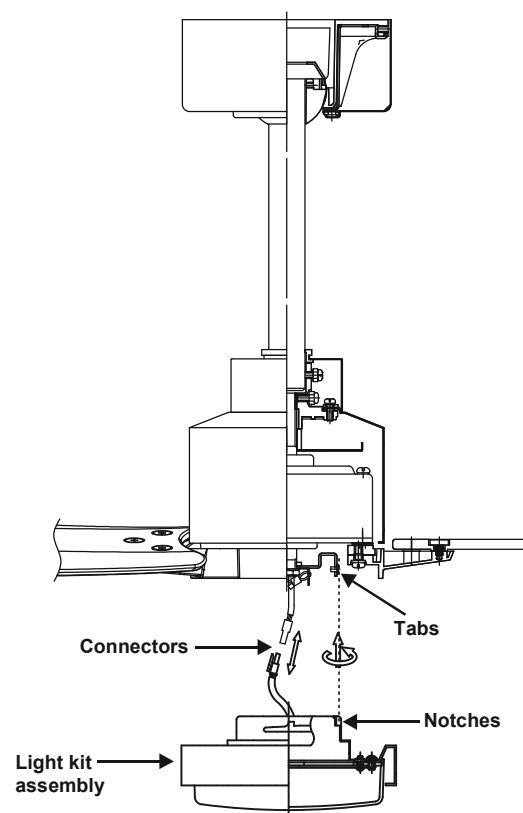

Figure 16
1. While holding the light kit assembly under the fan motor assembly, snap together the wire connection plugs: (Fig. 16)